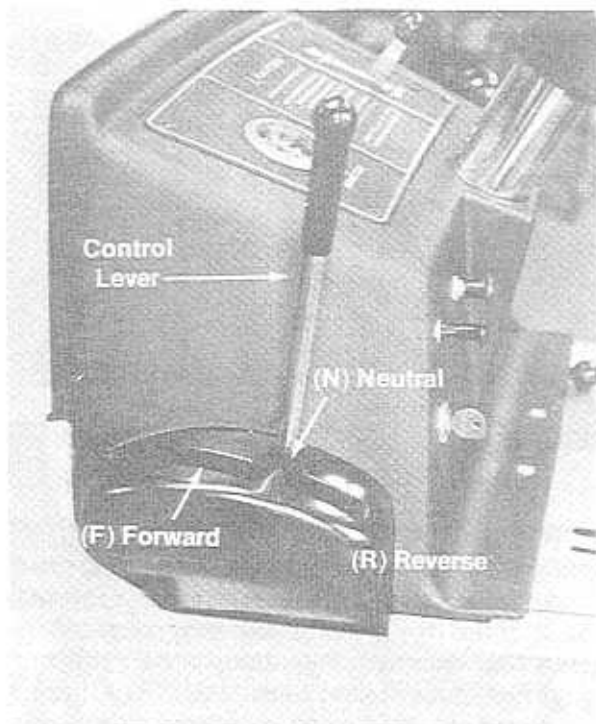

FIGURE 13.
The control lever is used to regulate the ground speed of the tractor. Moving the control lever to its extreme position makes the tractor travel faster. Moving the control lever forward (F) moves the tractor forward. Moving the control lever backwards (R) reverses the tractor. The control lever is used to regulate the ground speed of the tractor. See figure 13.
If the hydrostatic control lever does not return to the neutral notch on the hydrostatic control lever guide when the brake pedal is depressed (see figure 13), make the following adjustment: